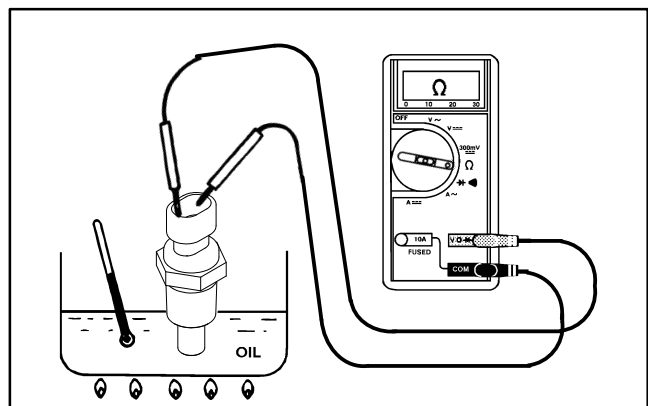

Figure 92
4. Put sender in a container of oil with a thermometer and slowly heat the oil (Fig. 92).